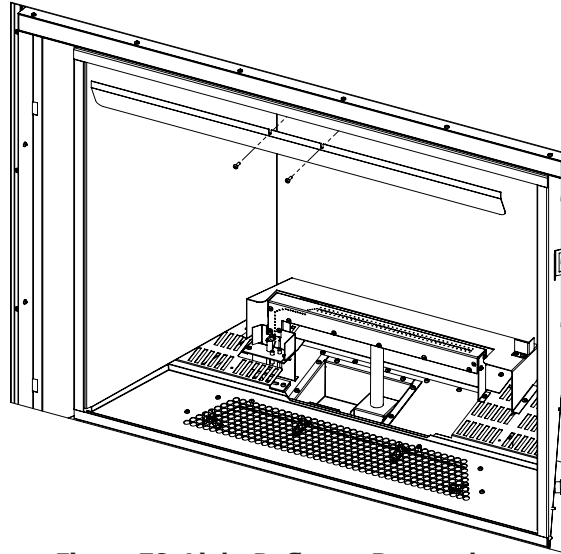

Figure 78: Light Deflector Removal
- Step 2.** Remove light deflector by removing two retaining T-20 screws (see Figure 78).